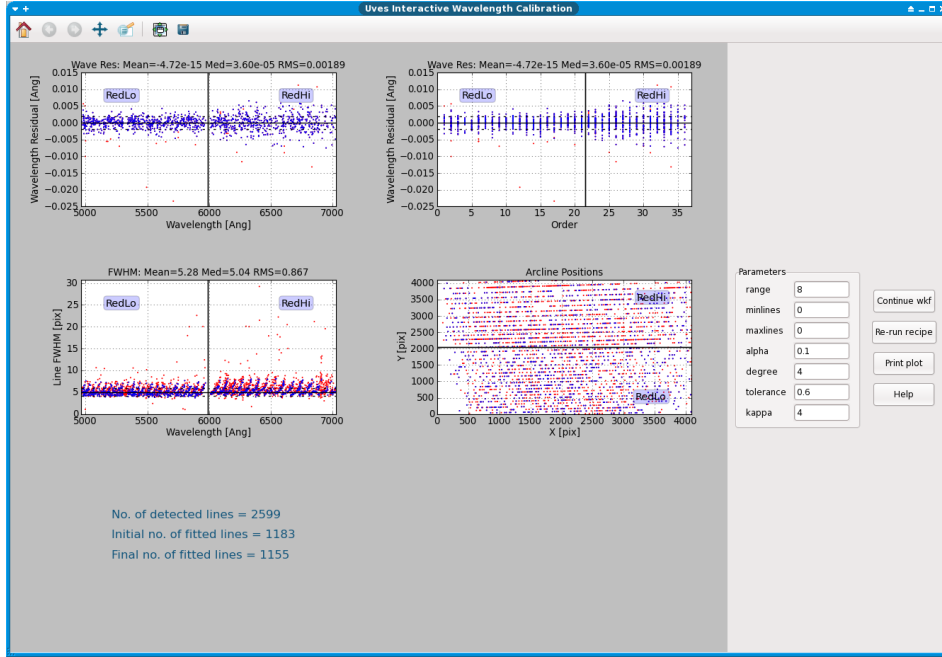

Figure 10: The interactive window for the Wavelength Calibration actor for the first LoSO in the data supplied with Reflex 1.1.
10. **Wavelength Calibration:** The next interactive window that will appear (see Figure 10) is associated with the execution of the `Wavelength Calibration` actor, which executes the UVES pipeline recipe `uves_cal_wavecal`. This pipeline recipe determines the wavelength calibration